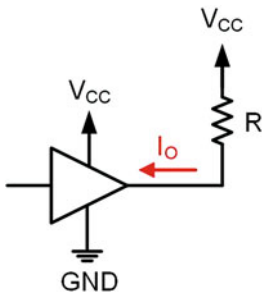

Fig. 3.41
- 3.4.21** For the pull-up driver configuration shown in Fig. 3.41, what is the output current (I_o) if $V_{CC} = +5\text{v}$ and $R = 50 \Omega$?
- 3.4.22** For the pull-up driver configuration shown in Fig. 3.41, what is the output current (I_O) if $V_{CC} = +5\text{v}$ and $R = 100\ \Omega$?
- 3.4.23** For the pull-up driver configuration shown in Fig. 3.41, what is the output current (I_O) if $V_{CC} = +5\text{v}$ and $R = 1\text{k}\Omega$?
- 3.4.24** For the pull-up driver configuration shown in Fig. 3.41, what is the output current (I_O) if $V_{CC} = +3.4\text{v}$ and $R = 50\ \Omega$?
- 3.4.25** For the pull-up driver configuration shown in Fig. 3.41, what is the output current (I_O) if $V_{CC} = +3.4\text{v}$ and $R = 100\ \Omega$?
- 3.4.26** For the pull-up driver configuration shown in Fig. 3.41, what is the output current (I_O) if $V_{CC} = +3.4\text{v}$ and $R = 1\text{k}\Omega$?
- 3.4.27** For the pull-up driver configuration shown in Fig. 3.41, if $V_{CC} = +5\text{v}$, $R = 75\ \Omega$, and $I_{O_MAX} = 50\ \text{mA}$, is the maximum output current specification violated?
- 3.4.28** For the pull-up driver configuration shown in Fig. 3.41, if $V_{CC} = +5\text{v}$, $R = 150\ \Omega$, and $I_{O_MAX} = 50\ \text{mA}$, is the maximum output current specification violated?
- 3.4.29** For the pull-up driver configuration shown in Fig. 3.41, if $V_{CC} = +5\text{v}$, $R = 500\ \Omega$, and $I_{O_MAX} = 50\ \text{mA}$, is the maximum output current specification violated?
- 3.4.30** For the pull-up driver configuration shown in Fig. 3.41, if $V_{CC} = +3.4\text{v}$, $R = 75\ \Omega$, and $I_{O_MAX} = 25\ \text{mA}$, is the maximum output current specification violated?
- 3.4.31** For the pull-up driver configuration shown in Fig. 3.41, if $V_{CC} = +3.4\text{v}$, $R = 150\ \Omega$, and $I_{O_MAX} = 25\ \text{mA}$, is the maximum output current specification violated?
- 3.4.32** For the pull-up driver configuration shown in Fig. 3.41, if $V_{CC} = +3.4\text{v}$, $R = 500\ \Omega$, and $I_{O_MAX} = 25\ \text{mA}$, is the maximum output current specification violated?
- 3.4.33** For the pull-up driver configuration shown in Fig. 3.41 with $V_{CC} = +5\text{v}$, calculate the value of the pull-up resistor (R) in order to ensure that the output current does not exceed $20\ \text{mA}$.
- 3.4.34** For the pull-up driver configuration shown in Fig. 3.41 with $V_{CC} = +5\text{v}$, calculate the value
- 3.4.35** For the pull-up driver configuration shown in Fig. 3.41 with $V_{CC} = +5\text{v}$, calculate the value of the pull-up resistor (R) in order to ensure that the output current does not exceed $50\ \text{mA}$.
- 3.4.36** For the pull-up driver configuration shown in Fig. 3.41 with $V_{CC} = +3.4\text{v}$, calculate the value of the pull-up resistor (R) in order to ensure that the output current does not exceed $20\ \text{mA}$.
- 3.4.37** For the pull-up driver configuration shown in Fig. 3.41 with $V_{CC} = +3.4\text{v}$, calculate the value of the pull-up resistor (R) in order to ensure that the output current does not exceed $25\ \text{mA}$.
- 3.4.38** For the pull-up driver configuration shown in Fig. 3.41 with $V_{CC} = +3.4\text{v}$, calculate the value of the pull-up resistor (R) in order to ensure that the output current does not exceed $50\ \text{mA}$.